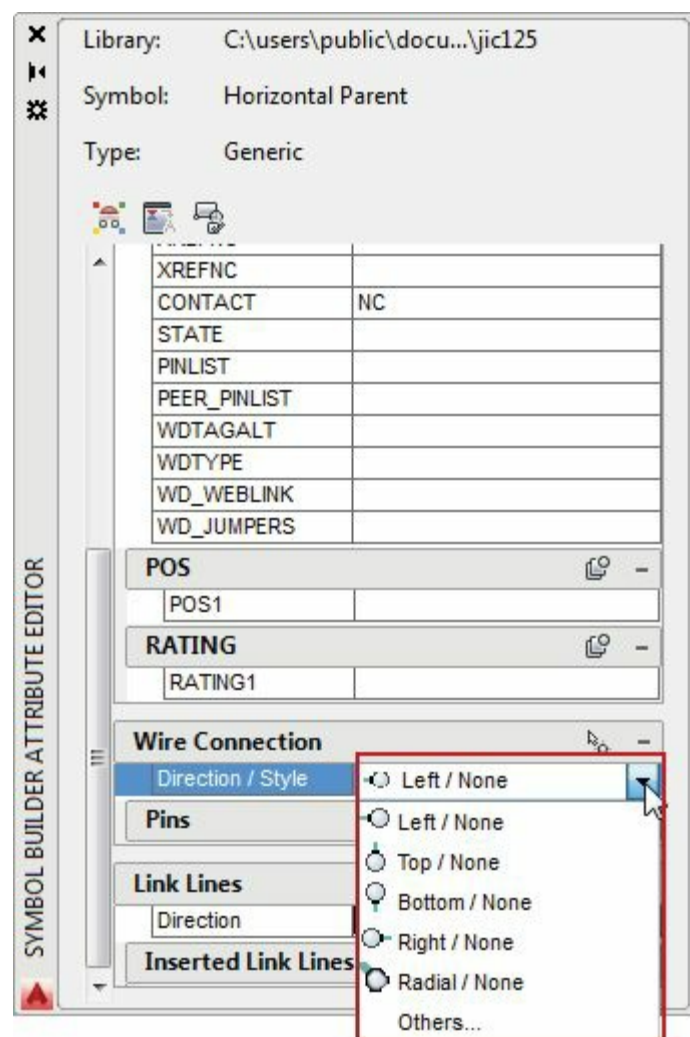

Figure-45. Direction or Style drop-down
- Click in the **Direction/Style** drop-down of **Wire Connection** rollout in the **Symbol Builder Attribute Editor**; refer to Figure-45. Select the desired orientation for wire connection from the list displayed. (We will select the **Radial/None** option from the list.)